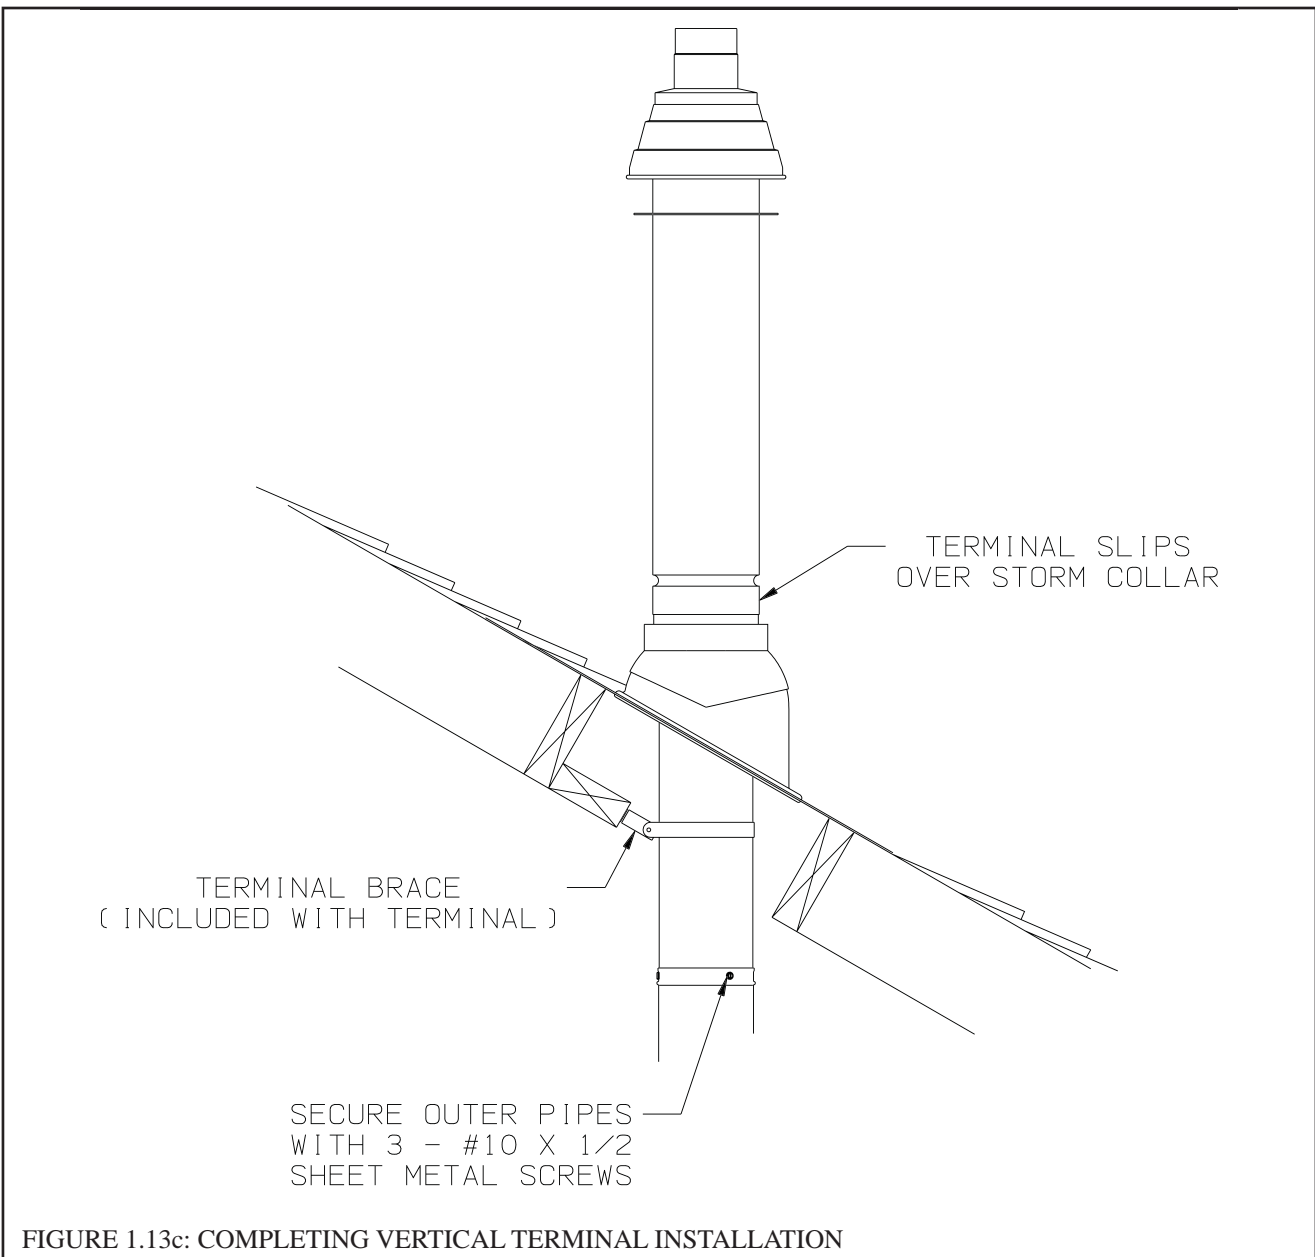

FIGURE 1.13c: COMPLETING VERTICAL TERMINAL INSTALLATION
- Secure the terminal section to the inside of the roof structure using the mounting bracket provided with the terminal (Figure 1.13c).